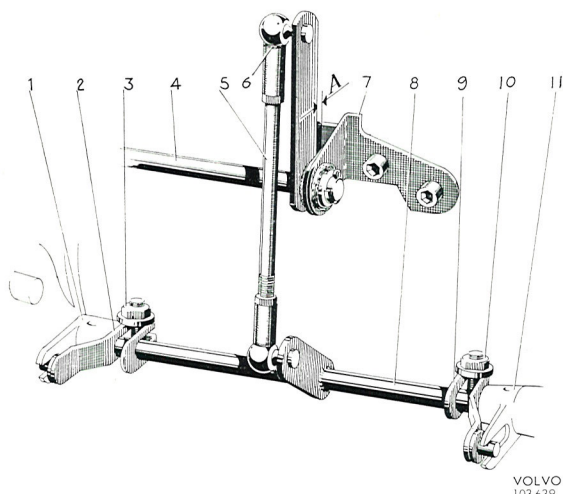

Fig. 2-117. Intermediate shaft and levers
2. Fit the intermediate shaft in position between the carburettors, see Fig. 2-117. Make sure that the protective plate is not damaged and that the sealing surfaces are clean.
1. Place a feeler gauge 0.5 mm (0.02") at "A" Fig. 2-117, between the lever and its stop. Screw out
2. Release the nuts (3 and 10, Fig. 2-117) and carefully press the outer end of the levers (2, 9) on the intermediate shaft downwards so that the flange pins make smooth contact with the lower tooth on the levers (1, 11) of the throttle spindles. **N.B.** Do not press so hard that the primary throttle is influenced. Tighten the nuts (3, 10) in this position. Make sure that the intermediate shaft can be pushed forwards and backwards a little. It must not jam due to, for example, the levers (2, 9) being fitted too near the carburettors.